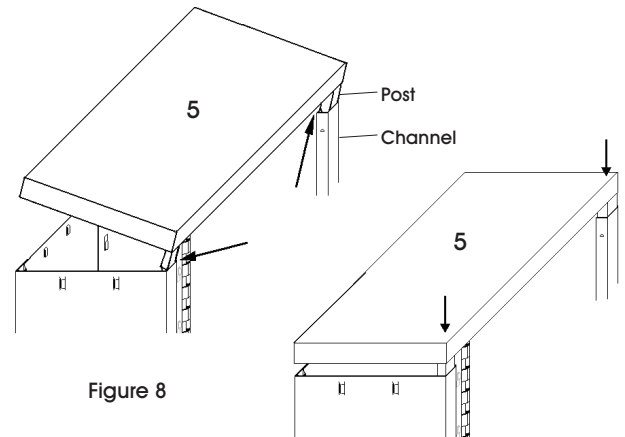

Figure 8
- Begin inserting the posts on the top (5) into the channels on the right and left side panels. (See Figure 8)